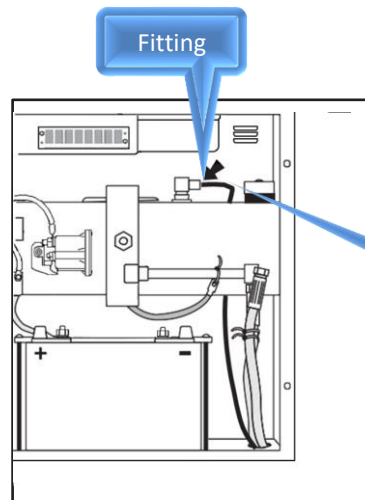

Figure 19c
5. Route the hydraulic return tubing through the hole in the base of the electrical control box and attach it to the fitting on top of the hydraulic reservoir. Push the tubing into the fitting until it seats (Fig. 19c).